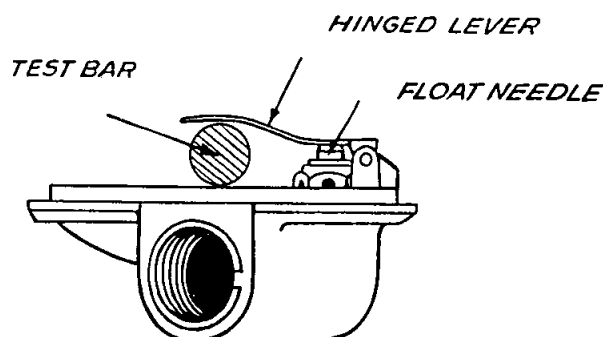

Fig. 11
44. TO ADJUST THE FUEL LEVEL IN THE FLOAT CHAMBER Fig 11.